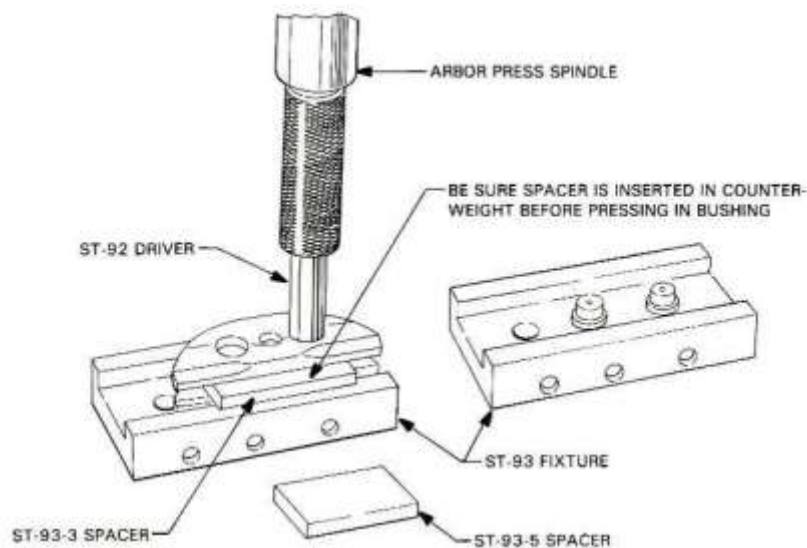

Figure 21
- (b) Install the applicable Depth Control Spacer ST-93-3 or ST-93-5 (Figure 21) in the counterweight bushing bore.
- (c) Use the Arbor Press Spindle and Counterweight Bushing Driver ST-92 to press each bushing out from one side of the counterweight. Refer to Figure 21. Discard the bushings.